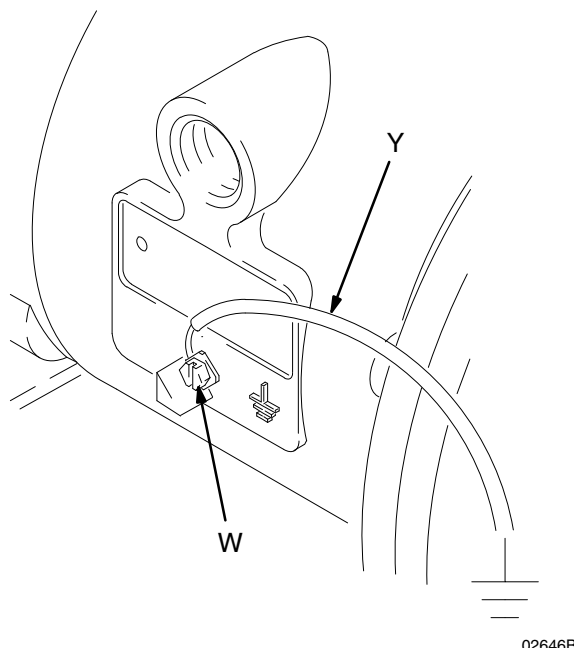

FIG. 1
- **Pump:** Connect a ground wire and clamp as shown in FIG. 1. Loosen the grounding screw (W). Insert one end of a 12 ga (1.5 mm2) minimum ground wire (Y) behind the grounding screw and tighten the screw securely. Connect the clamp end of the ground wire to